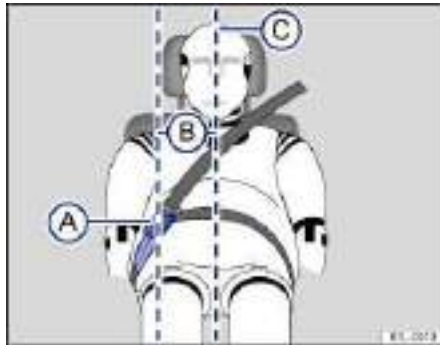

Fig. 69 Positioning of the safety belt extender.
Key to fig. 69:
- Never use a safety belt extender if the distance \Rightarrow fig. 69 (B) between the front edge of the safety belt extender buckle (A) and the centerline of the person using the safety belt extender (C) is less than 6 inches (15 cm).